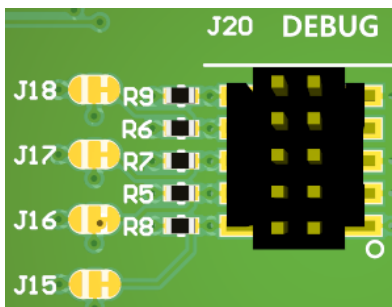

Figure 14: J20 physical layout
- An external target hardware can be attached to the J20 header connector for firmware programming and debug. J20 is implemented with a 2x5 header with 1.27 mm pitch. Figure 14 shows the physical layout of the connector.
Figure 14 shows the 2.54 mm pitch sockets exposing the IO signals on the NORA-W10 module.